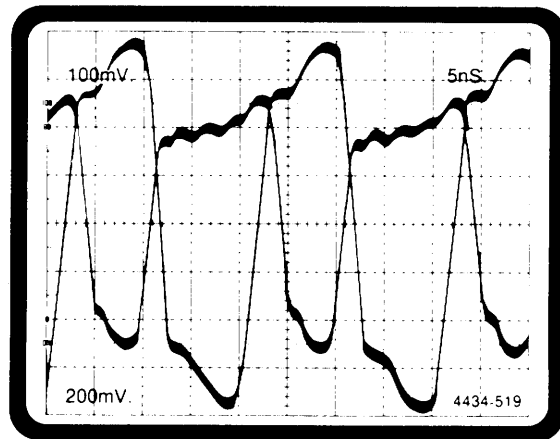

Figure 5-33. 318 Glitch data acquisition test waveform #2.
- a. Set the pulse generators as per Table 5-11 and Figure 5-33.